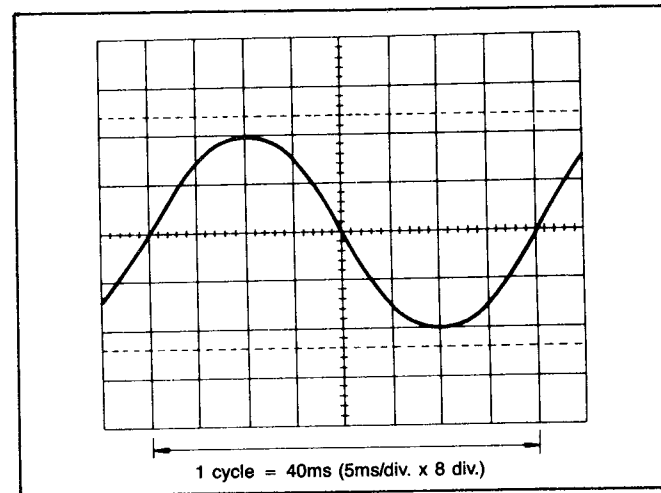

Fig. 8. Frequency Measurement.
(Refer to Fig. 8)
1. Set up the adapter and the oscilloscope to display one cycle of the waveform (see Fig. 8).
In the example shown in Fig. 8, a period of 0.4 ms is observed. Substituting this value into the above equation, the frequency is calculated as follows: